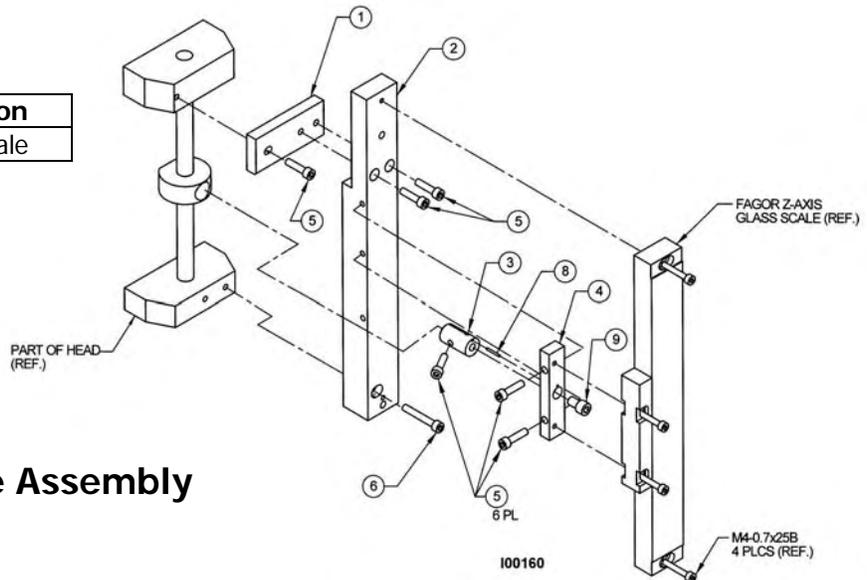

Figure 30
5.1.7.3 Install the Z-Axis Glass Scale (See Figure 30)